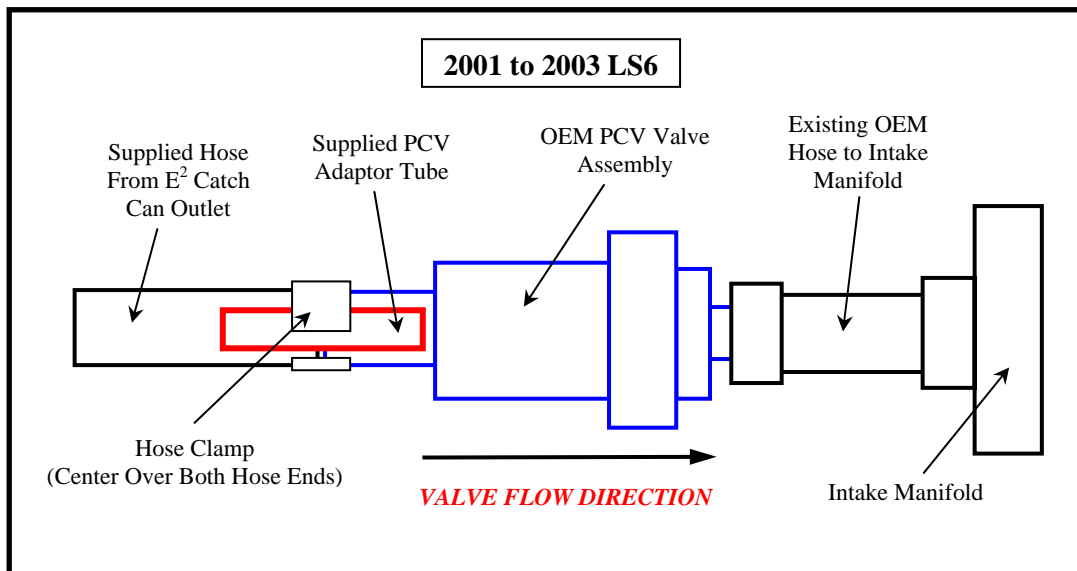

Figure 3 – LS6 PCV Valve Configuration
- **(Reference Figure 3)** Slide a supplied hose clamp over each end of the hoses cut above. Connect the hose from the valley cover hose fitting to the Catch Can inlet fitting (top location). Install the supplied 3/8" OD by 1.0" long adaptor tube half way into the OEM PCV valve assembly's rubber fitting. Connect the other hose from the Catch Can outlet fitting (side location) to the adaptor tube at the PCV valve. Reposition hose clamps to ensure a good seal, while noting the specific clamp location at the adaptor tube connection.